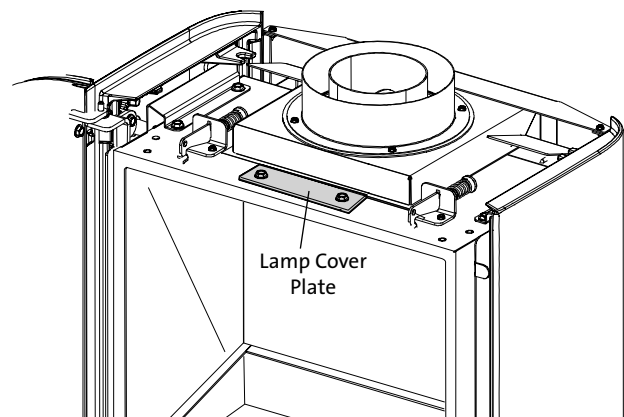
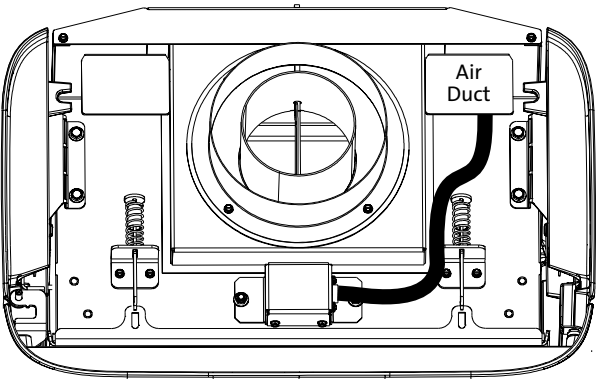
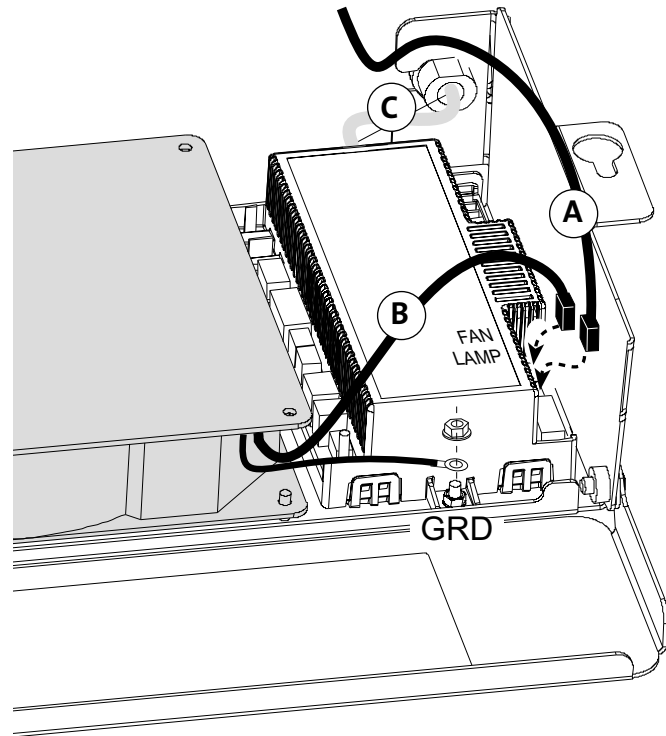

Figure 11.4. Remove the Lamp Cover Plate.
Figure 11.5. Accent Lamp Harness routing.
Figure 11.7. Blower & Lamp Terminal Connections.
2. Refer to figs. 11.4 and 11.4a. Remove the two M8 hex head bolts (A), nuts (B), and steel Lamp Cover Plate from the firebox top using a 10 mm socket wrench. Discard the cover plate.
3. Install the Gasket, Lens, and Lamp Box over the opening on the firebox using the two bolts (A) previously removed.
5. Route the lamp wire harness over and down through the right rear Air Duct as shown in fig. 11.5. Connect the harness (A) to the terminal labelled "Lamp" on the right side of the IFC board. See fig. 11.7 on page 22.
2. Connect the blower power lead (B) to the IFC board terminal labelled "FAN". See Fig. 11.7.
3. Connect the blower ground lead to the ground terminal at the front of the IFC using the nut provided on the board. Fig. 11.7.